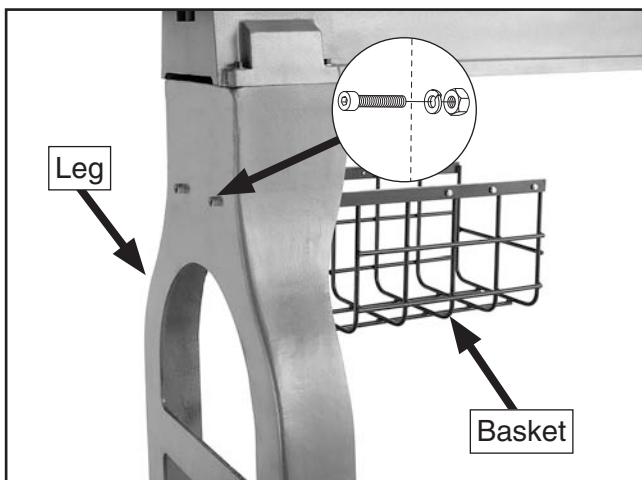

Figure 14. Attaching basket to leg.
- Attach the storage basket to the leg using the remaining (2) M8-1.25 x 35 cap screws, (2) 8mm lock washers, and (2) M8-1.25 hex nuts, as shown in **Figure 14**.